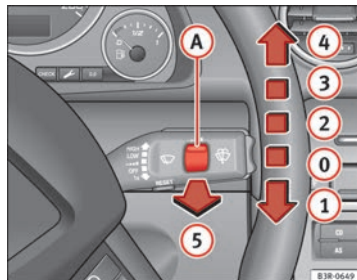

Fig. 99 Windscreen wiper lever
The windscreen wiper lever ⇒ Fig. 99 has the following settings:
With the lights switched on, operate the automatic wash and wipe ⇒ Fig. 99 ⑤, and keep the lever pulled towards you for at least 1 second.